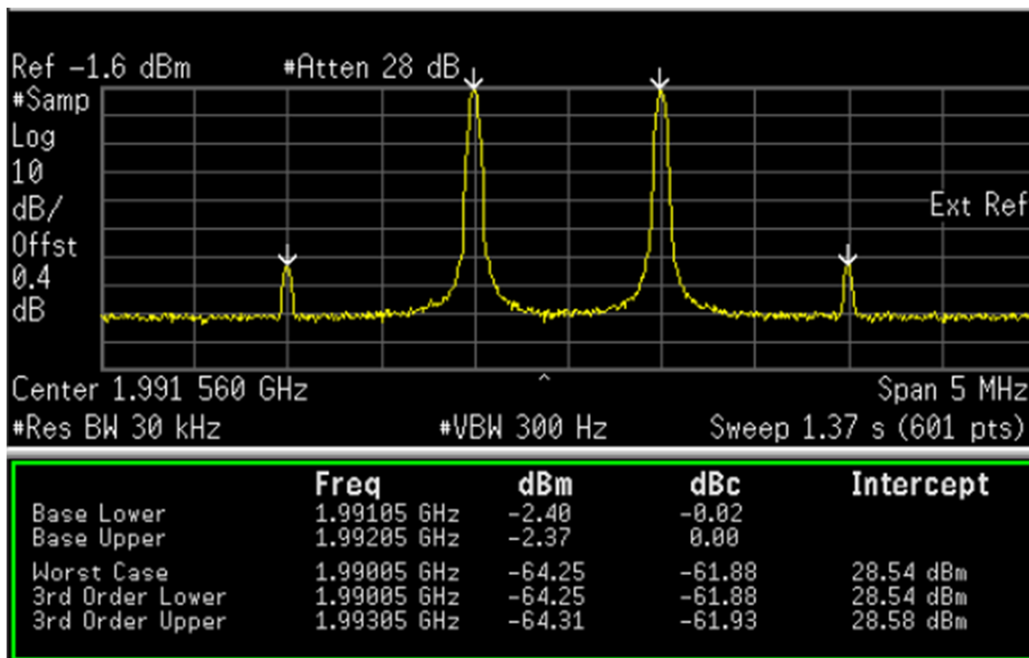

Figure 9. TRF3722 OIP3
14. Measure the TRF3722 output OIP3. The OIP3 at LO 1986.56 MHz should be around 28.5 ±2 dBm, as shown in Figure 9.